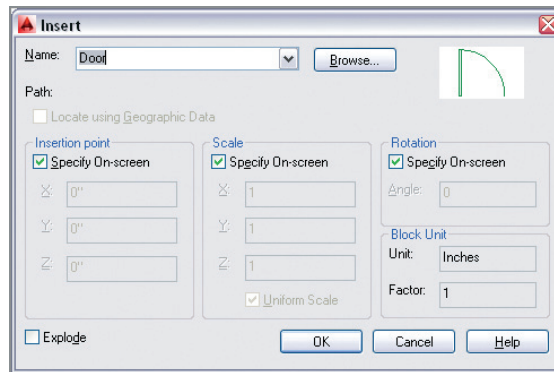

FIGURE 7.13 Specifying everything on screen when inserting a block
- Press the spacebar to repeat the INSERT command. Select Specify On-Screen in the Scale and Rotation sections of the Insert dialog box (see Figure 7.13) and click OK.